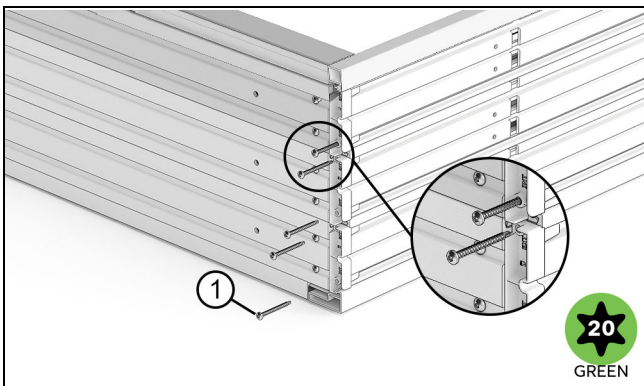

Figure 49
8. Fasten with two #8x1 3/4" self drilling screws per key. See Figure 49.